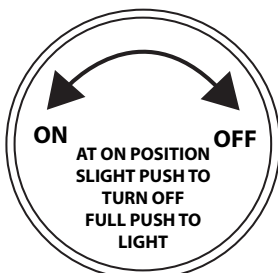

Fig. 8. Gas Valve Knob
2. Rotate control knob on gas valve in the counter clockwise to ON position. (See Fig 8).
2. Depress control knob inward and push the light the burner at the same time. (See Figures 8 & 9).